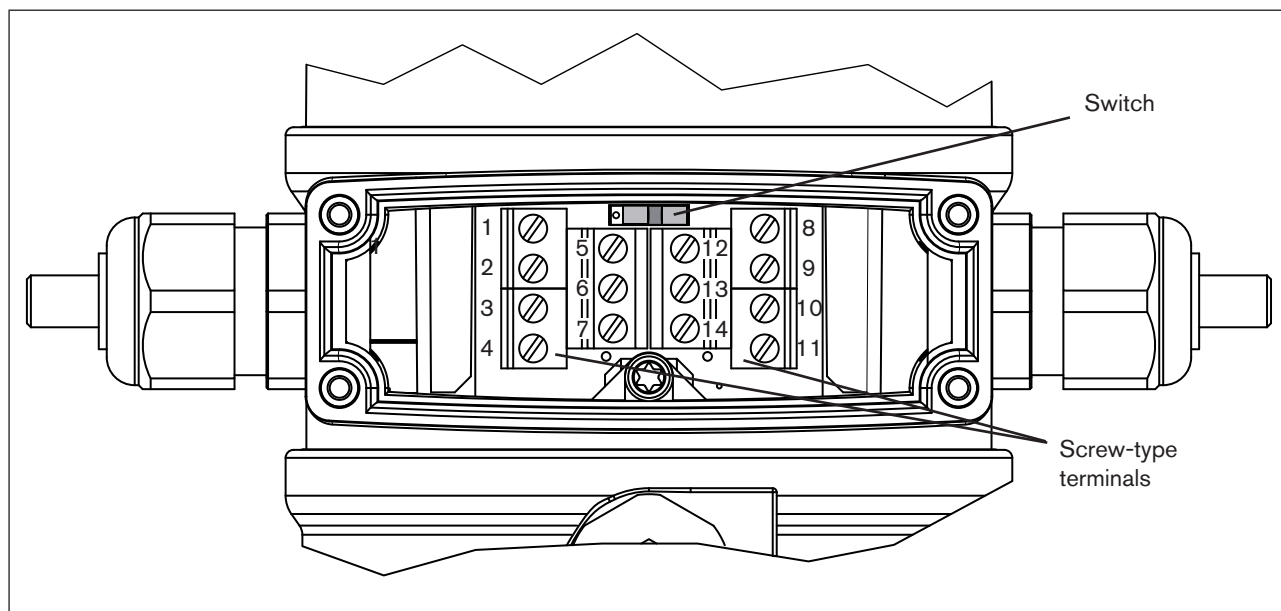

Fig. 4: Terminal board with switch
** The switch is situated on the terminal board of the positioner (see Fig. 4)